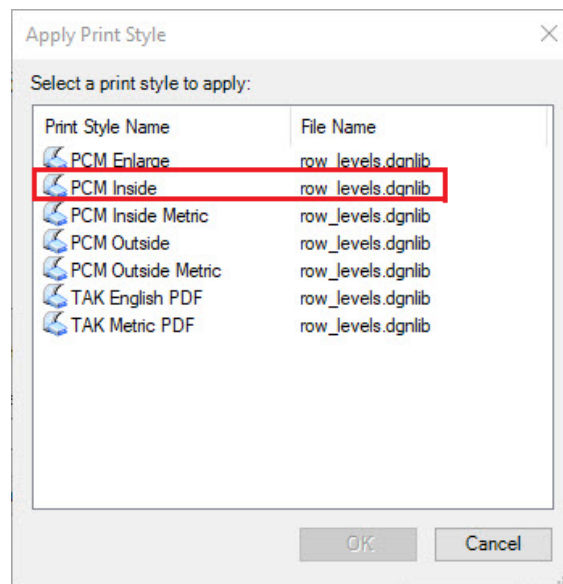

Figure 34 “Print Style”
Step 11. Double Click either PCM Inside or if you are doing an enlargement area select PCM Enlarge (Figure 34 below)